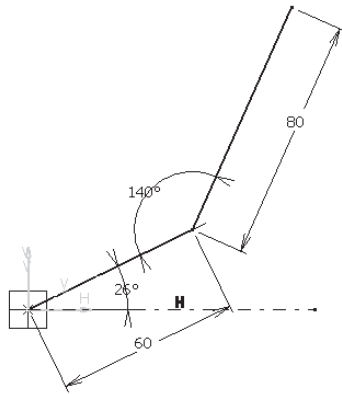

Figure 6-72 Reference sketch
- Start a new file in the **Part** workbench and create the base feature of the model by extruding the sketch along the selected direction, refer to Figures 6-72 through 6-76.
2. Draw the sketch, as shown in Figure 6-72, and then exit the **Sketcher** workbench.